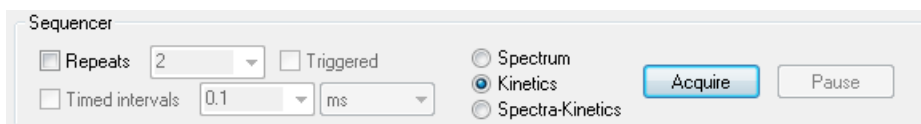

Figure 2-24: the Sequencer panel for fluorescence polarisation
5) Ensure that **Kinetics** mode is selected in the **Sequencer** panel (Figure 2-24).